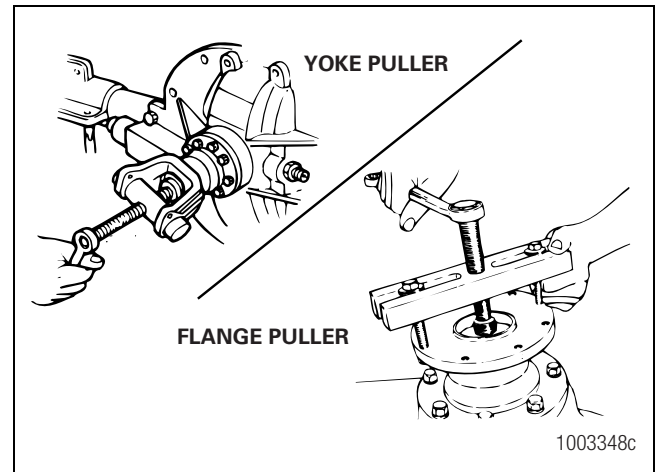

Figure 3.22
- If the yoke or flange is tight on the pinion: Use a puller for removal. Figure 3.22.